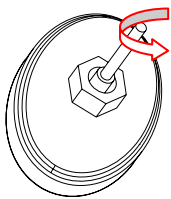

Fig. 20D
Unscrew the nut from (1) Heat Indicator as shown as Fig. 20D.